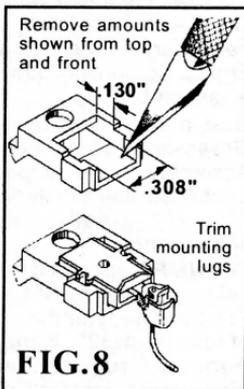

FIG.8
2. With a sharp knife, remove areas shown in Fig.8 from the top and front of Talgo-truck coupler box.